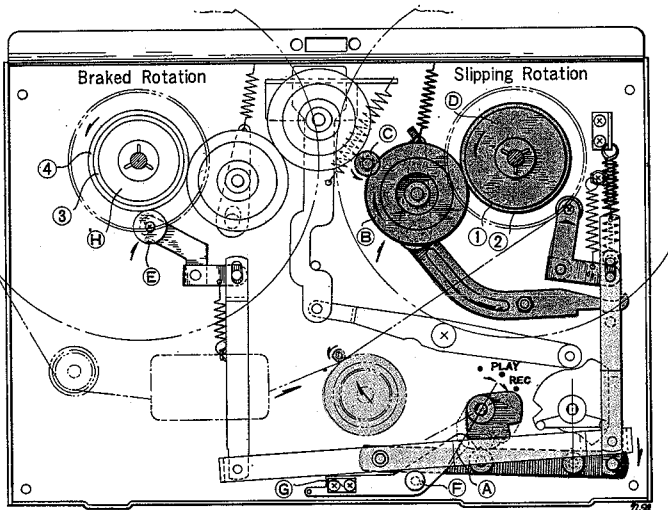

Fig. 2
Turning the RECORD/PLAYBACK LEVER (A) to "PLAY" position causes the pinch wheel to press against the capstan and move the tape at the rated speed. At the same time, Idler (B) moves between Motor Bushing (C) and the Take-Up Reel Spindle (D) to transmit the motor rotation to (D) so that the tape is moved and wound on the take-up reel. The Take-up Reel Spindle Base, composed of two plastic wheels (discs) (1 and 2) with a felt clutch between, is rotated from below by the idler. Tape-winding friction is adjusted by the slipping of the felt and maintains rated winding of the tape. The Supply Reel Spindle (H) has a Brake Roller (E) contacting plastic wheel (disc) (4) from below which provides appropriate back tension by the slipping of the felt clutch to the rotation of the Pulley (3) above. To prevent accidental erasure, the Record Interlock Button (F) must be depressed before the RECORD/PLAYBACK LEVER can be moved to the "REC" position. Safety device (G) is depressed to operate the recording mechanism. (See figure 2)